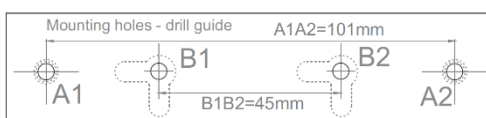

Figure 3 - Mounting drill guide
- Fixed mounting holes – Use hole guide A1 & A2 (see figure 3)
- Removable slide holes – Use hole guide B1 & B2 (see figure 3)